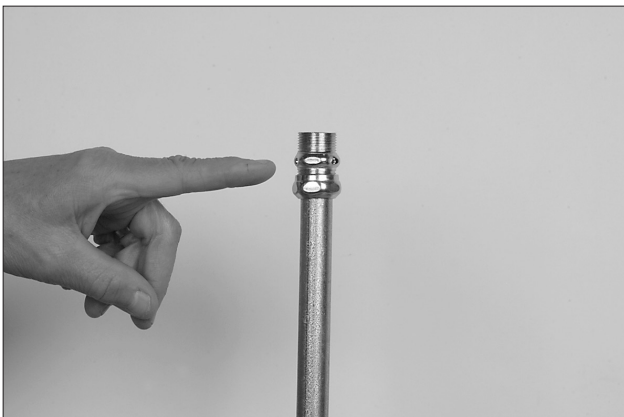

FIGURE 4-62
6. Remove union nut and ring. Discard ring. Do not reinstall nut at this time. See Figure 4-62.